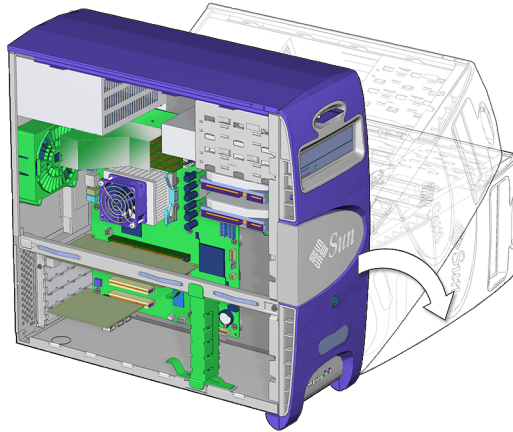

FIGURE 10-12 Positioning the Chassis
- Using both hands, gently set the system chassis on its side, with the opening facing up. See FIGURE 10-12.